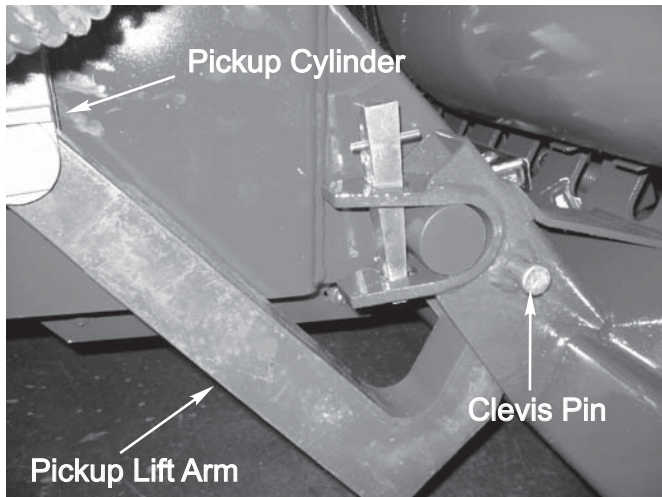

Figure 6 - Pickup Lift Arm
3. Connect pickup lift arm assembly on right hand side of baler as shown in Figure 6. Secure lift arm to pickup cylinder and baler.